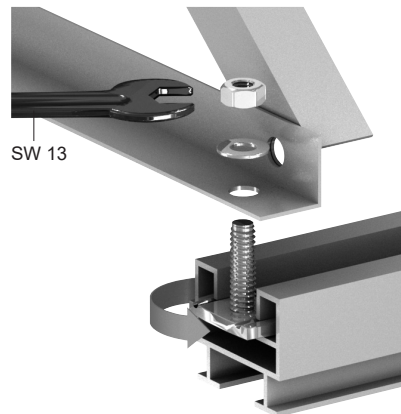

Figure 5-4: Fixing Using Interlocking Bolt
3. Refer to Figure 5-4. Fix the flat roof mounting bracket to the mounting rail using the interlocking bolts, serrated washers and nuts provided.